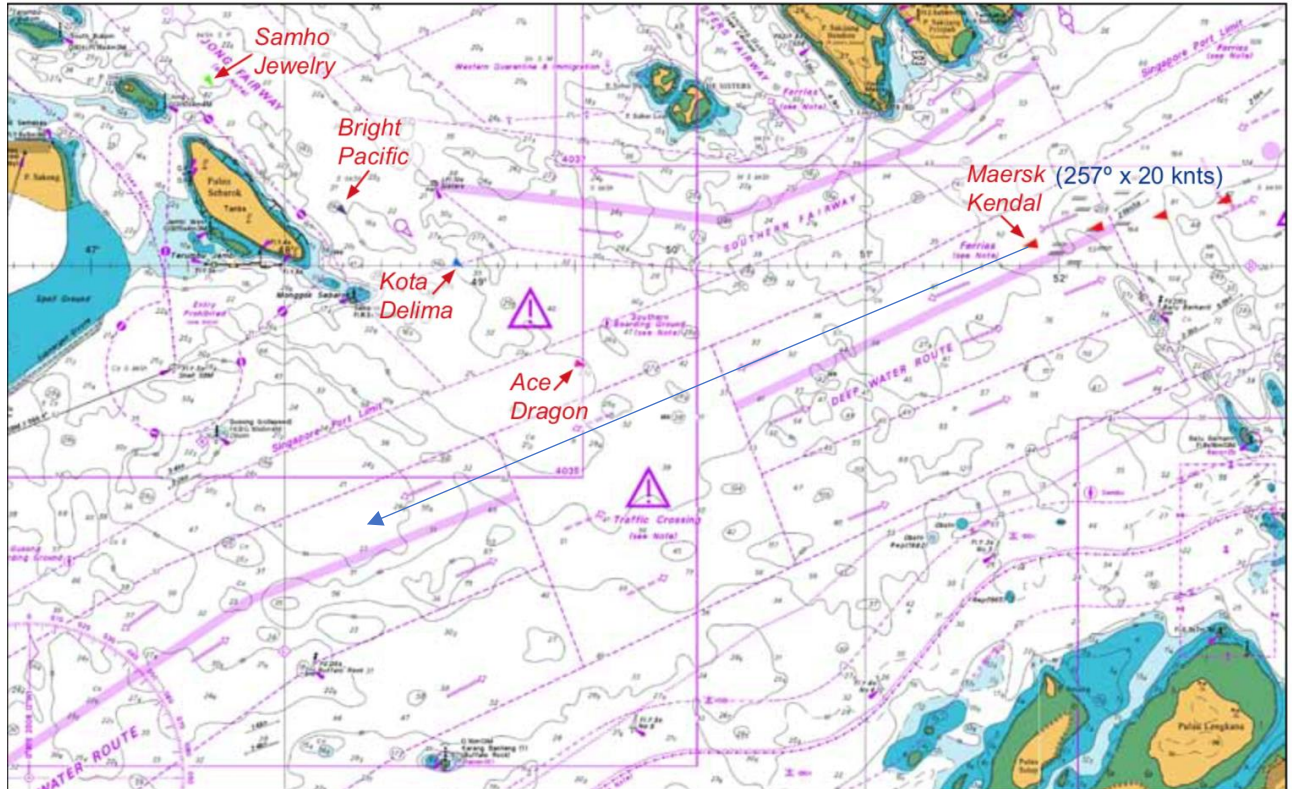

Figure 6-05: 11 min. before grounding at 0703 hours,
- Figure 6-05: 11 min. before grounding at 0703 hours,
If master can handle collision risks with these three vessels by speed vectors the grounding could be solved easily. In this investigation report, speed vector is not available. For those read this book from the beginning this is unimaginable but this is the truth at sea. We have to solve this case by another way. **To avoid the collision ownship have to take care of collision location** especially a Master level as captain have to take care safe distance to surrounding grounds more precisely than OOW when we react to collision risk. In figure 6-05, we can see ownship position colored as red triangle sharp end suggest possible heading at that times.
- ⇒ "Ace Dragon" outbound speed is about 10 knots,  $1/2$  of ownship. Her SRB should be 30 degrees about. As figure 6-05 we see "Ace Dragon" relative bearing is 8 degrees to ownship's starboard side. It is far less than her SRB 30 degrees. If ownship steer  $245^\circ$  (T) traffic lane general direction she will pass ownship head without problem.
- ⇒ "Kota Delima" outbound speed is about 10 knots,  $1/2$  of ownship. Her SRB should be 30 degrees about. As figure 6-05 we see "Kota Delima" relative bearing is 20 degrees to ownship's starboard side. It is still less than her SRB 30 degrees. If ownship steer  $245^\circ$  (T) traffic lane general direction she will pass ownship head at close range.
- ⇒ Kota Delima" outbound speed is about 6 knots,  $1/3$  of ownship. Her SRB should be 20 degrees about. As figure 6-05 we see "Kota Delima" relative bearing is 23 degrees to ownship's starboard side. It is more than her SRB 20 degrees. If ownship steer  $245^\circ$  (T) traffic lane general direction, ownship will pass her head at close range.